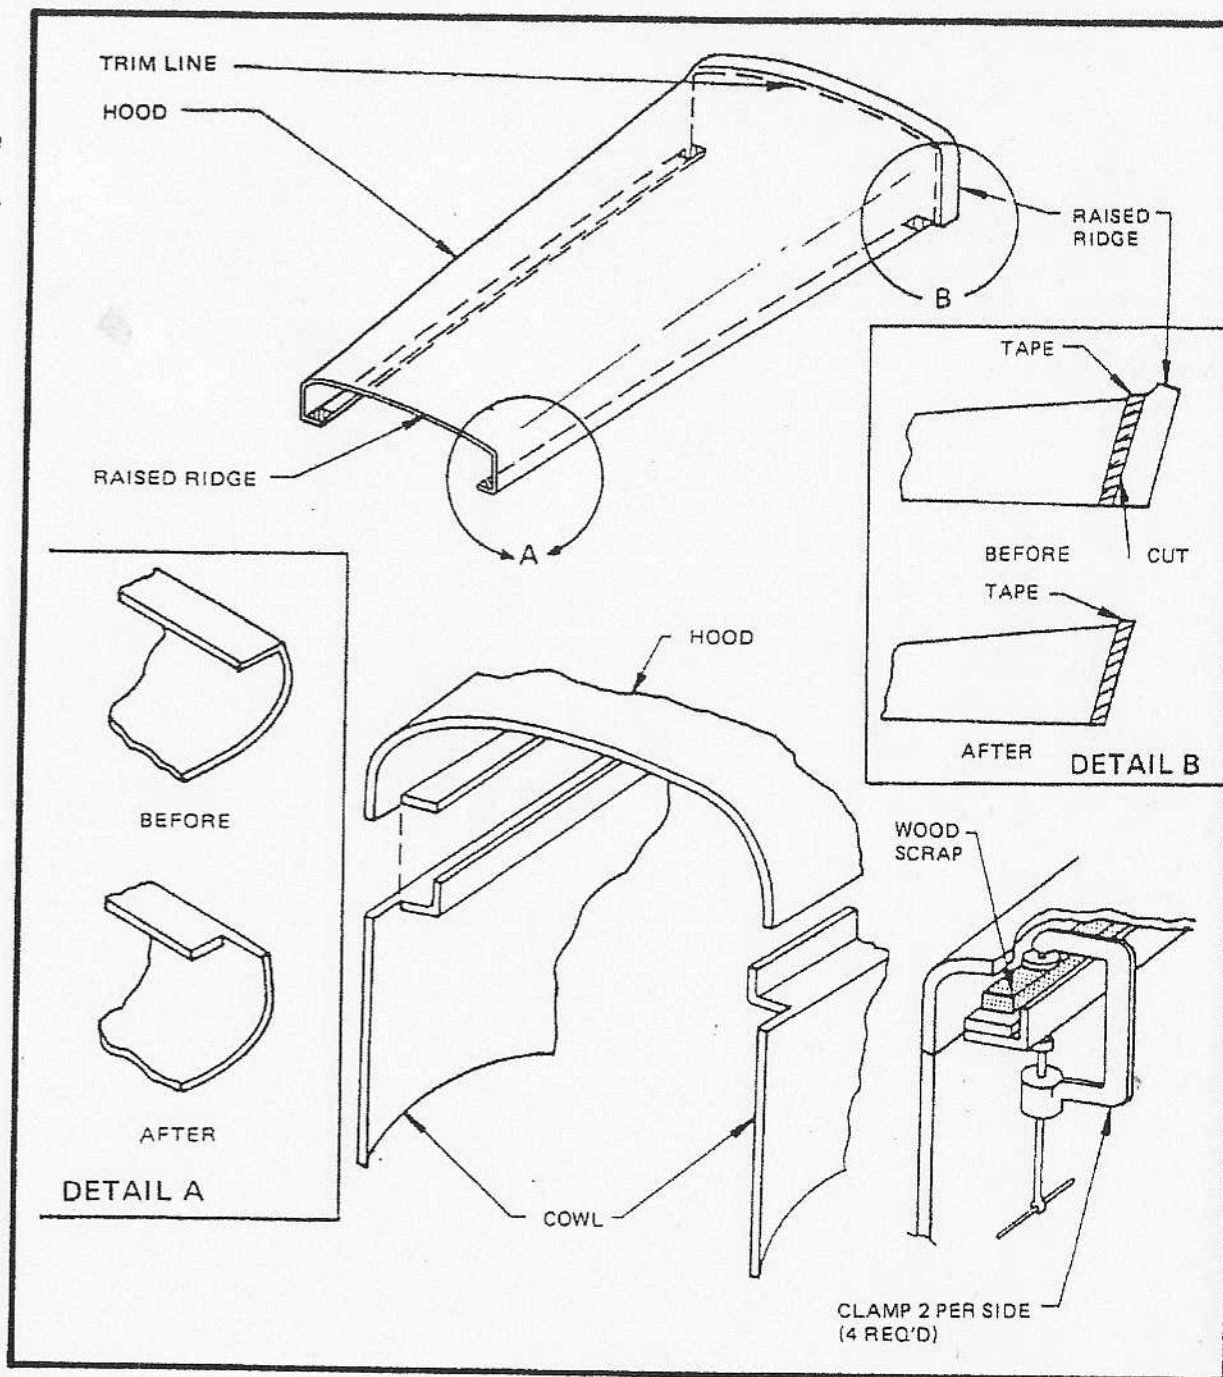

Figure 52
- ☐ Trim as per diagram. (Figure 52) The trim line is just inside the raised ridge on the rear of the hood. Trim the inner lip as shown.